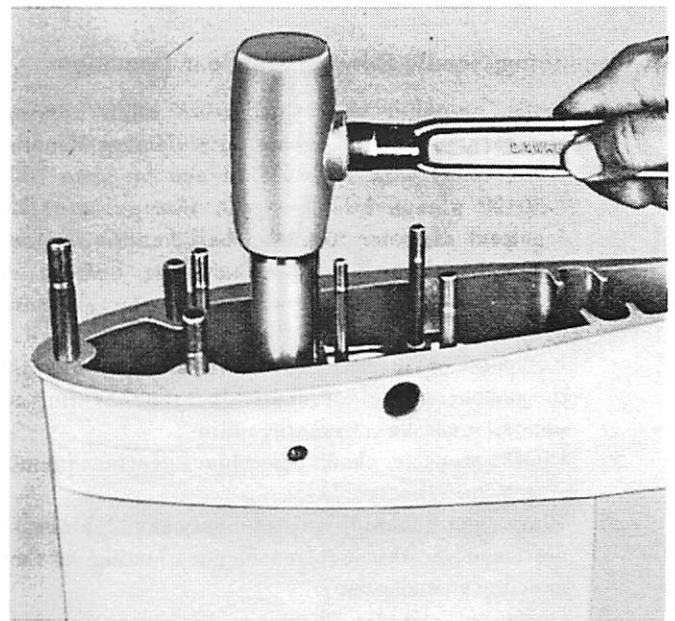

Figure 9. Removing Drive Shaft Needle Bearing from Gear Housing
3. Press bearing out with arbor press or tap on tool with heavy mallet to remove bearing. (Figure 9)